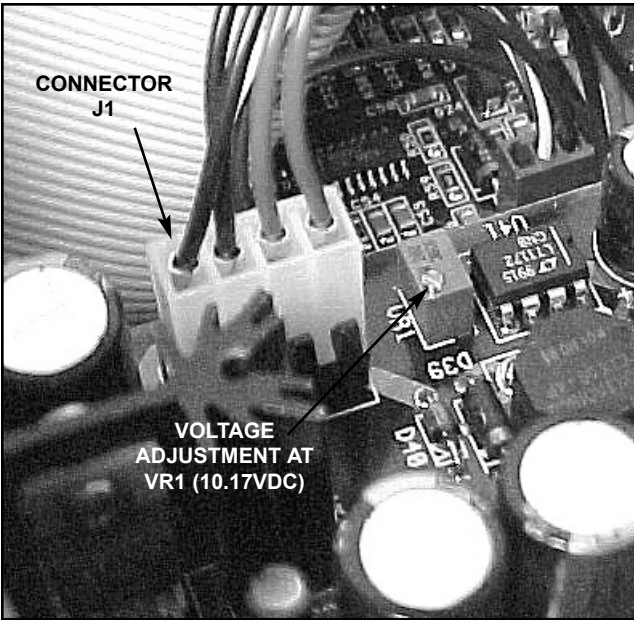

FIGURE 5.37
- 2. If voltage reading is not exactly 10.17VDC, adjust voltage at VR1. See "B" on schematic and Figure 5.37.